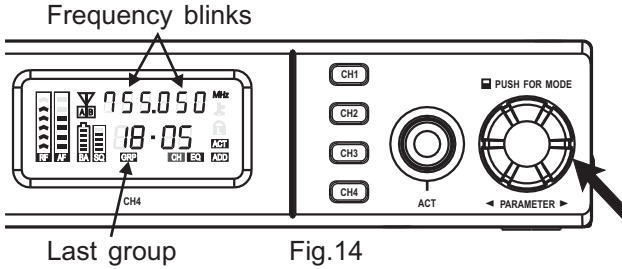

Fig.14
- (1) Press knob to CH cursor. CH cursor blinks to denote it is ready to accept parameter changes.
- (2) Turn knob right to increase or left to decrease a CH number.
- (3) After changing a parameter, press the knob to save the value. CH cursor stops blinking.
- (4) When SQ is set as the highest level, the frequency can be selected forcibly regardless the level of external interferences.
- (5) Group 16 is last group and can be user-defined. Group 16 enables the user to select and save up to 16 frequencies, Fig.14 :